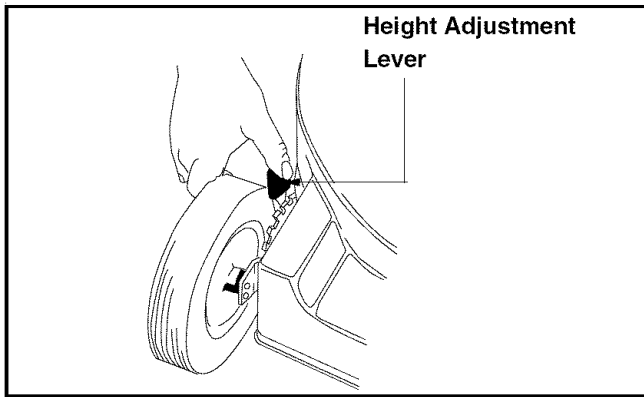

Figure 14
- Simply depress the lever towards the wheel and move the lever assembly to desired position. See Figure 14 .